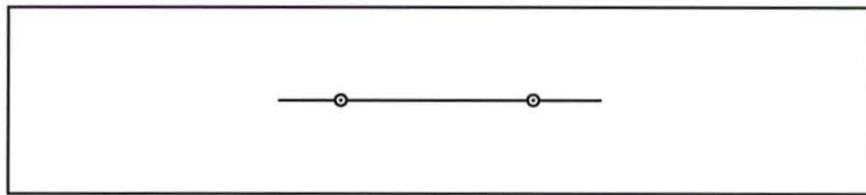

Figure 8. Line Symbol
4. Identify the line symbol shown in figure 8.